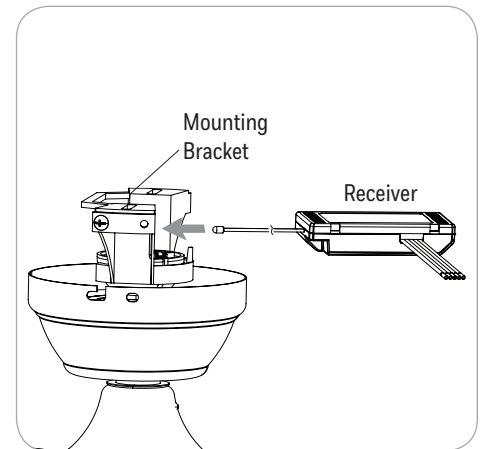

Figure 2.9
9. Insert the receiver into the opening of the mounting bracket with flat side facing up (Figure 2.9).